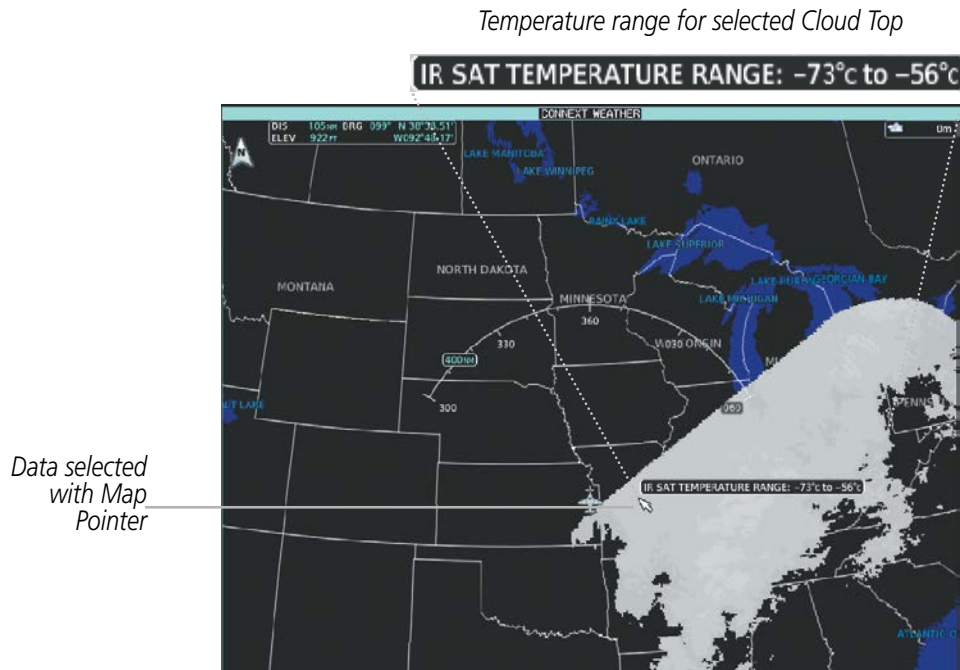

Figure 6-64 Infrared Satellite Weather Product on Connex Weather Pane
The Infrared (IR) Satellite weather product (Figure 6-64) depicts cloud top temperatures, as determined from infrared satellite imagery. Darker colors indicate warmer cloud tops typically associated with lower altitudes; lighter colors indicate cooler cloud tops typically associated with higher altitudes. When panning over a Cloud Top with the Map Pointer, the system displays an estimated temperature range for the selected Cloud Top.